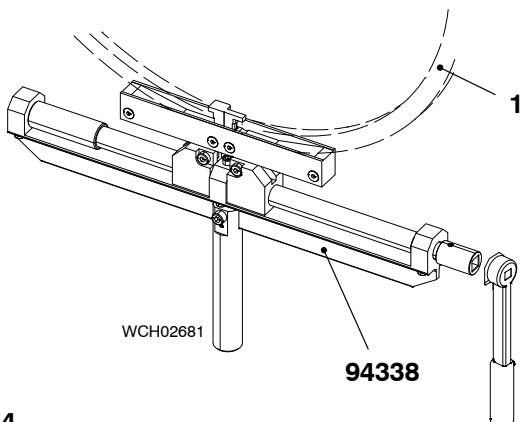

Fig. 4
- 1) Use the tool (94338, Fig. 4) to remove the top, middle and bottom piston rings (1). Make sure that you do not cause damage to the chrome-ceramic surface.
Note: Make sure that you use the tool (94338, Fig. 4) to install the piston rings.